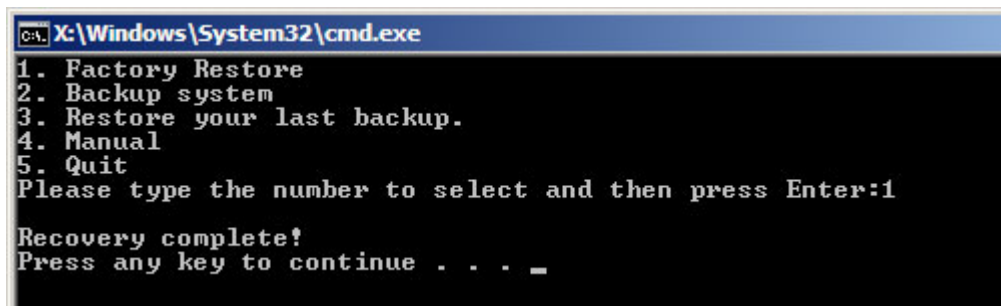

Figure A-25: Recovery Complete Window
Step 3: The screen is shown as in **Figure A-25** when completed. Press any key to reboot the system.
Step 3: The screen is shown as in **Figure A-25** when system backup is completed.
Step 3: The screen is shown as in **Figure A-25** when backup recovery is completed. Press any key to reboot the system.